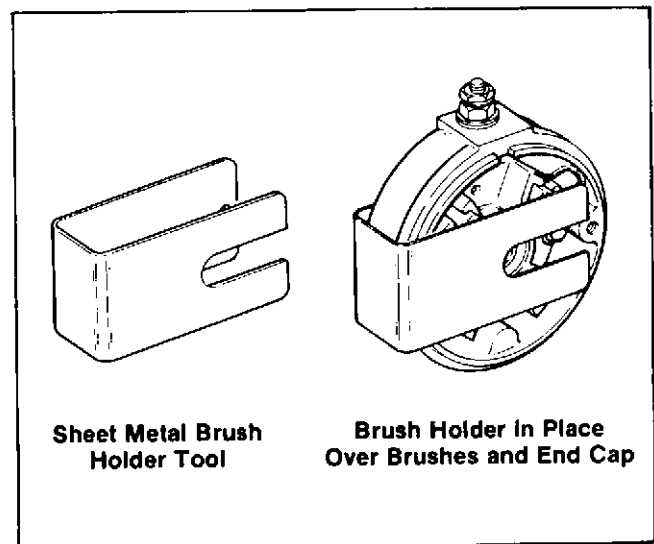

Figure 5-12. Brush Holder Tool
8. To keep brushes in position so that they will fit over the commutator as the end cap is reinstalled, use a brush holder tool as shown, which can easily be cut out of thin sheet metal (see Figure 5-12).